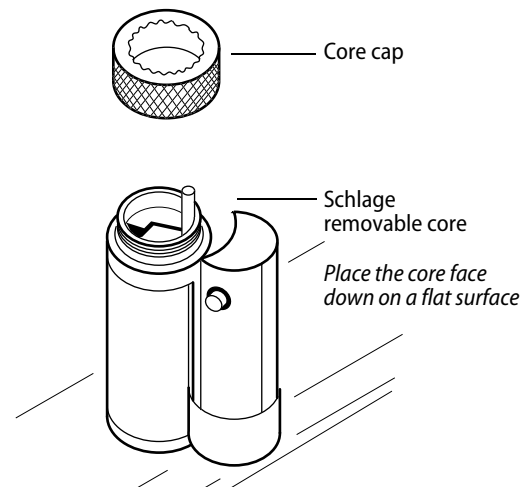

Figure 4 Unscrewing the cap from the Schlage core to be adapted
- 2 Disassemble the core by unscrewing the cap from the core as shown in Figure 4. Keep the existing core and core cap.